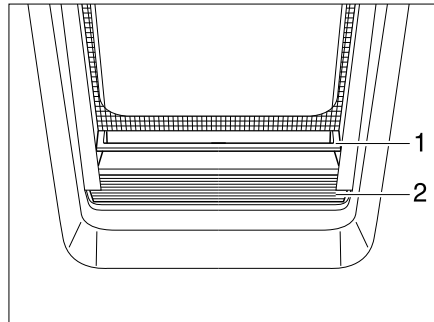

Fig. 52 Roman shade
- Grip the Roman shade (Fig. 52,2) in the middle of the holding bar (Fig. 52,1), pull it upwards and then release it at the desired height. The Roman shade will stay at this height.